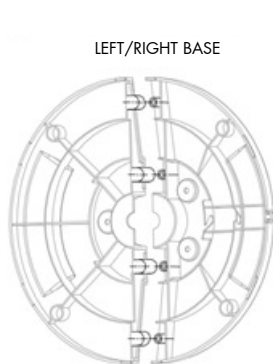

Fig. 1
1. Install the left and right bases as a whole (Fig. 1). Then, coordinate the position of the bottom of the fan and the base.